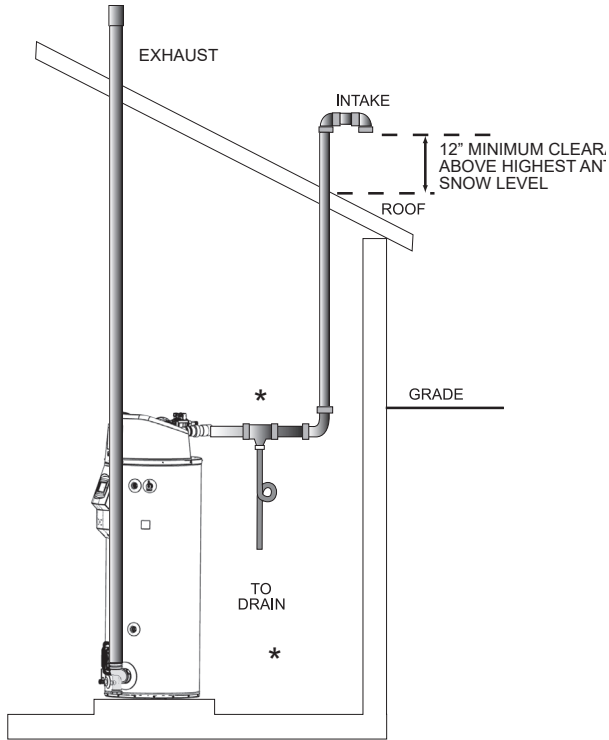
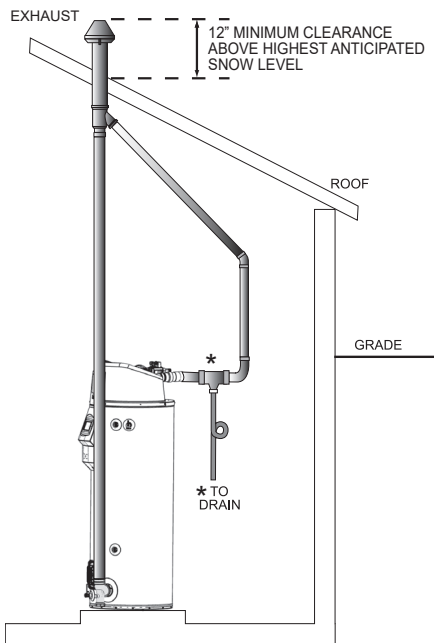
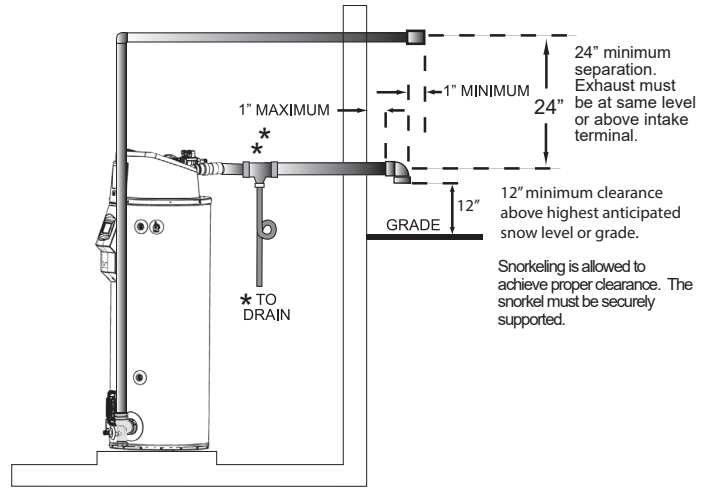
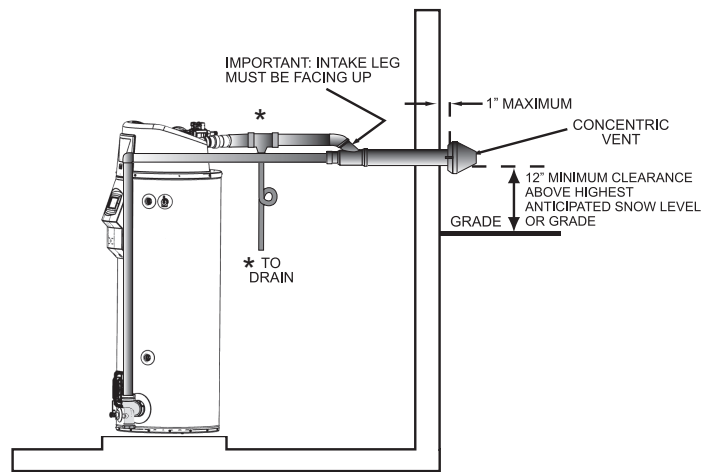

Figure 25. Direct Vent, Pitched Roof, Standard Termination
Figure 26. Direct Vent Roof Vent Concentric
Figure 27. Sidewall Vent - Typical
Figure 28. Sidewall Vent - Concentric
Installations with any of these conditions are required to provide a moisture drain with a trap that flows to a waste drain. See *Figure 25* (page 34), *Figure 26* (page 34), *Figure 27* (page 34) and *Figure 28* (page 34). A horizontal section of the air inlet pipe, near the heater should include a 2" by 2" by 1/2" tee and a hose barb fitting to drain the water. The tee should be as close to the heater as is practical. The drain tubing in any installation should have a loop trap and flow to an appropriate waste drain. The air intake drain line must be entirely separate from the exhaust vent outlet condensate line.
Direct Vent combustion air intake drains are required in certain situations. See *Direct Vent Air Intake Moisture Protection* (page 30) and the *Figure 25* and *Figure 28* below.
2. Install a 1/2 inch PVC condensate drain line between condensate drain connection on the Exhaust/Condensate Elbow and a suitable building drain. The condensate line must slope to an open drain. See **Figure 28**.
3. Terminate the condensate drain piping near the drain. See Figure 28.
4. Ensure the condensate drain line is not elevated above the condensate drain connection on the Exhaust/Condensate Elbow. See **Figure 28**.